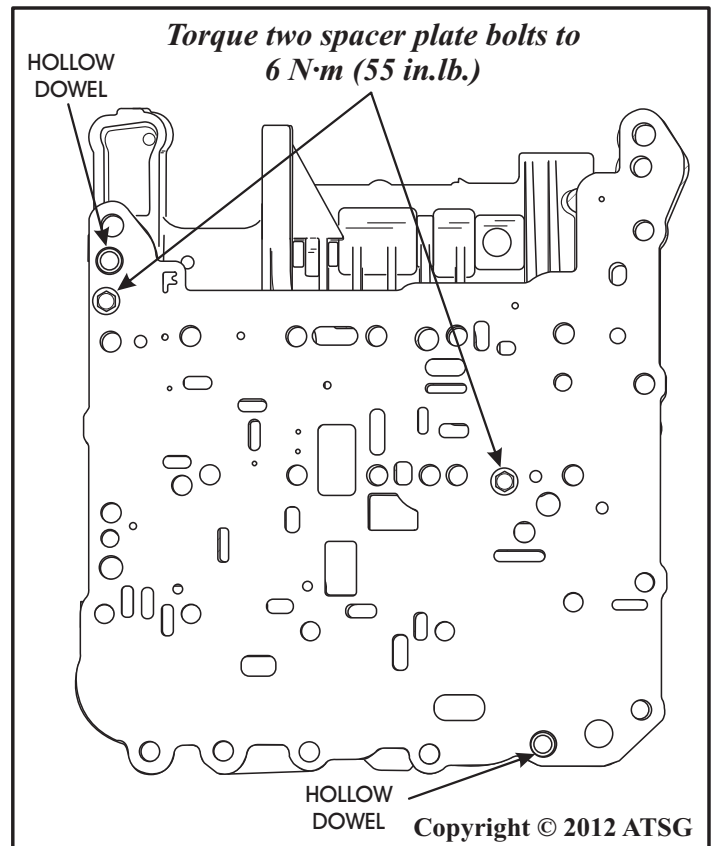

Figure 218
26. Install the hollow dowels into the valve body in positions shown in Figure 218.
27. Install the main valve body spacer plate and bolts, as shown in Figure 218. Torque spacer plate bolts to 6 N·m (55 in.lb.).